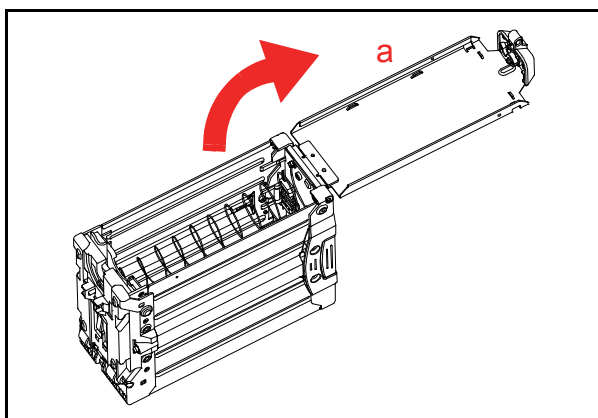

Figure 25 JAM Clear 6
6. Open the Cash Box Door (Figure 25 a) and remove a jammed Banknote.